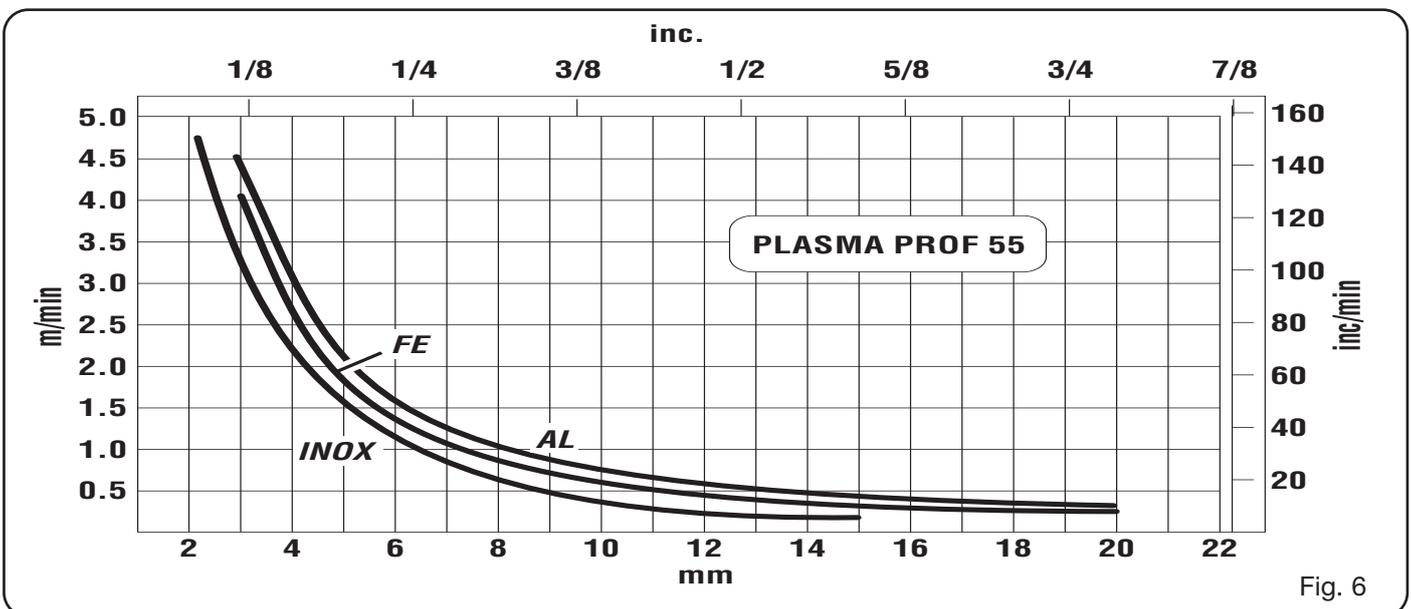

Fig. 6
- Excessively thick workpiece (see cutting speed diagram, fig. 6)